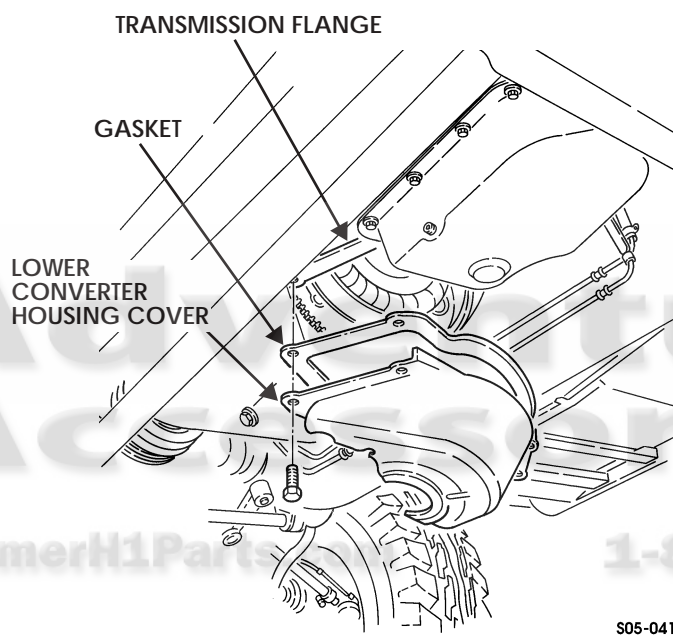

Figure 5-94: Lower Converter Housing Cover
3. Remove four bolts and lower converter housing cover from transmission flange (Figure 5-94).
1. Apply adhesive to gasket and install on lower converter housing cover (Figure 5-94).